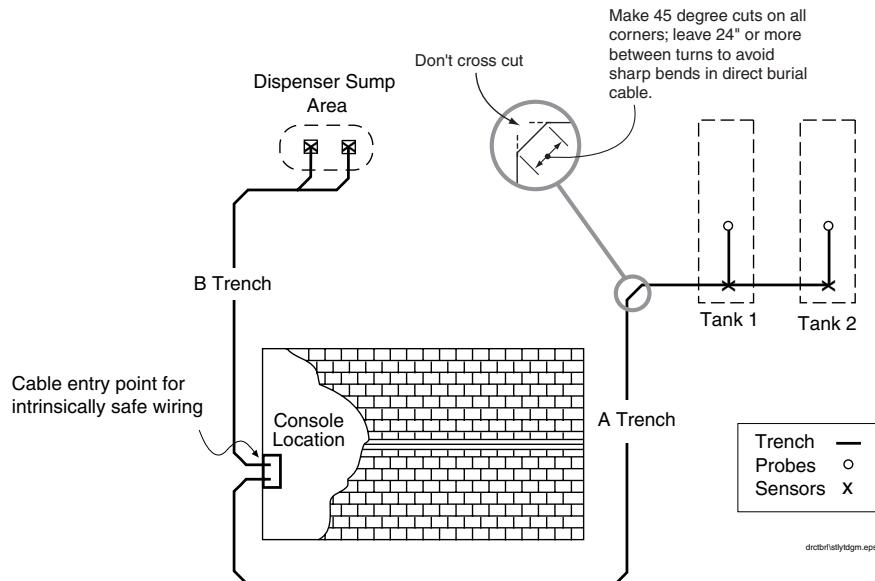

Figure 1. Site Layout Diagram, Top View
2. Use a layout diagram to determine the number and length of the saw cuts. Figure 1 shows a typical layout including trench lengths
When turning corners with saw cuts, always use 45 degree cuts (see Figure 1 on page 6). 90 degree saw cuts may cause damage to the Direct Burial Cable.